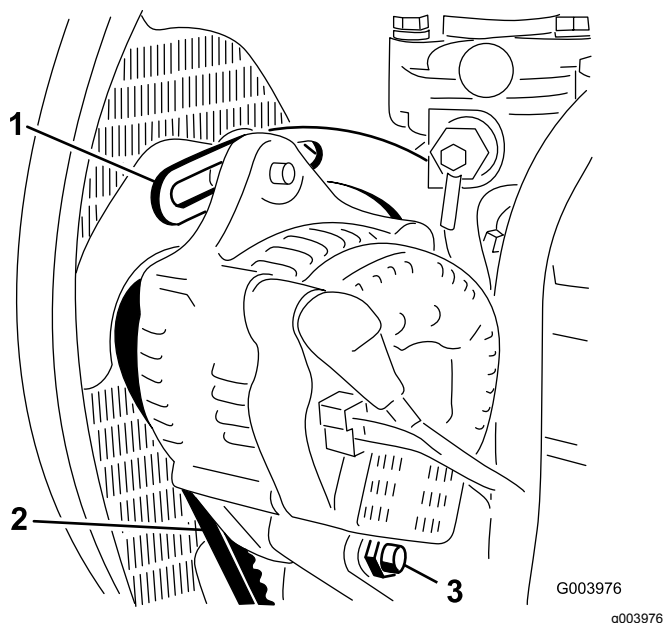

Figure 56
2. Check the tension of the alternator belt by depressing it (Figure 56) midway between the alternator and the crankshaft pulleys with 10 kg (22 lb) of force.
4. Loosen the bolt securing the brace to the engine (Figure 56), the bolt securing the alternator to the brace and the pivot bolt.